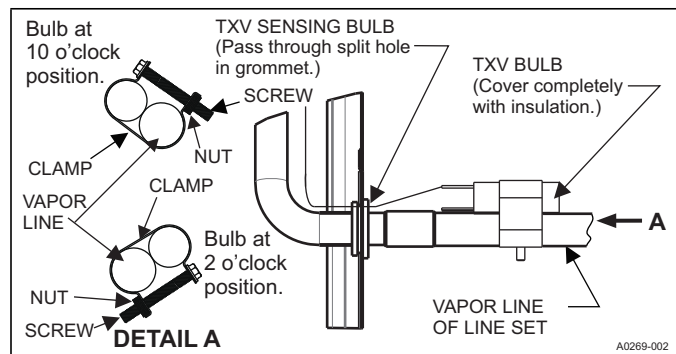

Figure 10: Correct bulb location
- a. If possible, install the temperature bulb on a horizontal run of the vapor line. Ensure that the bulb is installed at a 10 o'clock or 2 o'clock position. See Figure 10.